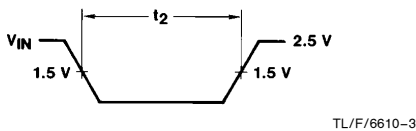

FIGURE 2
- Release time (t_2) for input trigger pulse must be > 40 ns. (See Figure 2).